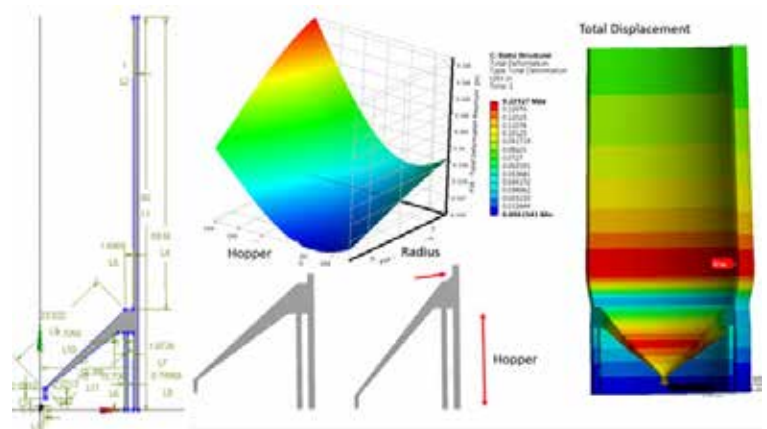

Figure 4: Parametric axisymmetric grain silo model
For structures of revolution, including domes, pipes, piles, silos, or tanks subjected to axisymmetric loading, the 2D axisymmetric element formulation can save considerable computational time with increased stress accuracy. A parametric axisymmetric model of a concrete silo is used to illustrate the value of this 2D simulation. Figure 4 illustrates the design analysis performed, along with an example response surface interaction plot illustrating the sensitivity of adjusted design parameters on the structural response of the silo. Highlights from these design simulations include:
- A fully parametric model of the silo cross section is created as illustrated in the left image of Figure 4 to allow for variation in any design dimension.
- In the bottom center images of Figure 4, the impact on the hopper height and ring beam to wall radii are defined as the input variables for this example.